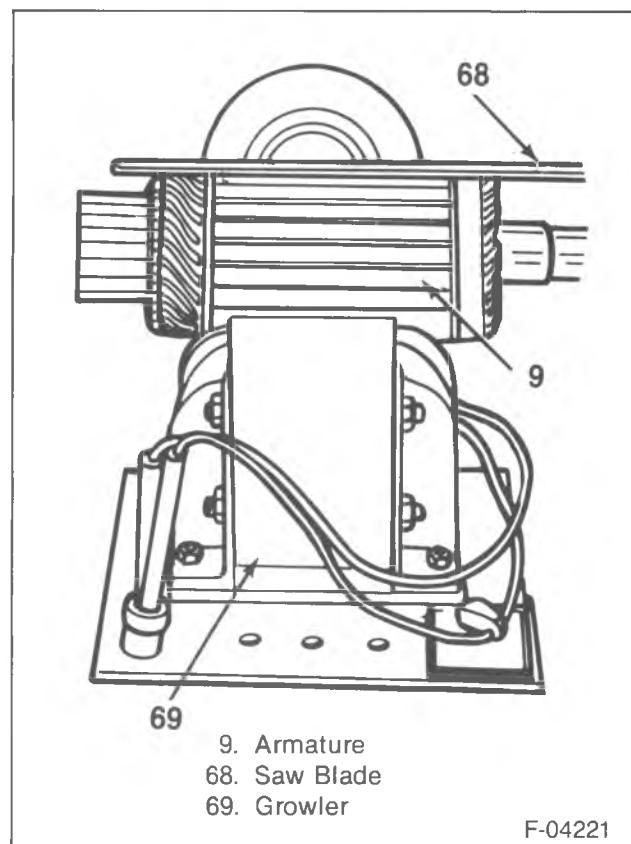

Figure 31—Testing the Armature for Short Circuits
5. Armature for short circuits (figure 31).